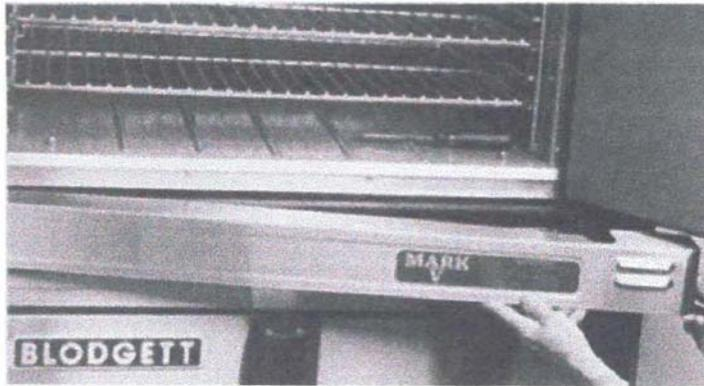

Figure 6-1. Bottom Trim Cover
3. Lift panel up and outward. See Figure 6-1.